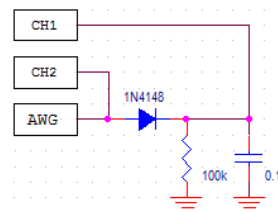

Figure 65: Half wave rectifier circuit
- 1) Build the circuit shown on figure 65.